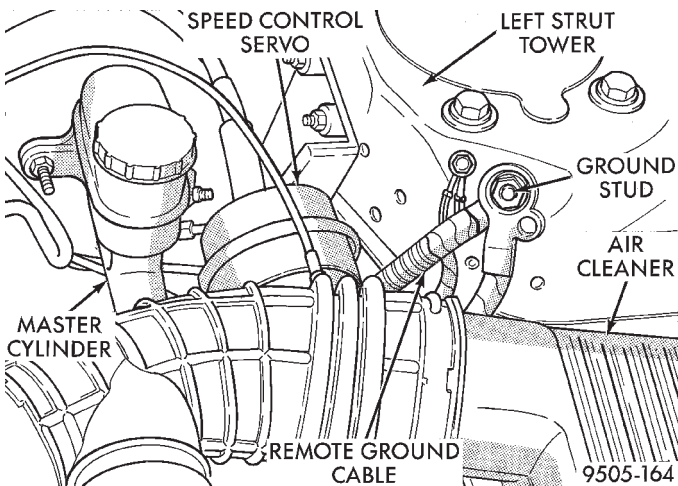

Fig. 65 Ground Cable Attachment To Strut Tower
(1) Remove the remote ground cable from the ground stud located on the left shock tower (Fig. 65).
(19) Install the remote ground cable (Fig. 65) on the ground stud located on the left strut tower (Fig. 65). Install and securely tighten the ground cable attaching nut.
(20) Check brake light switch for correct adjustment. If required, adjust stop lamp switch as necessary. See required procedure in the Service Adjustments Section in this group of the service manual.
(21) Road test vehicle to ensure proper operation of the vehicles brake system.